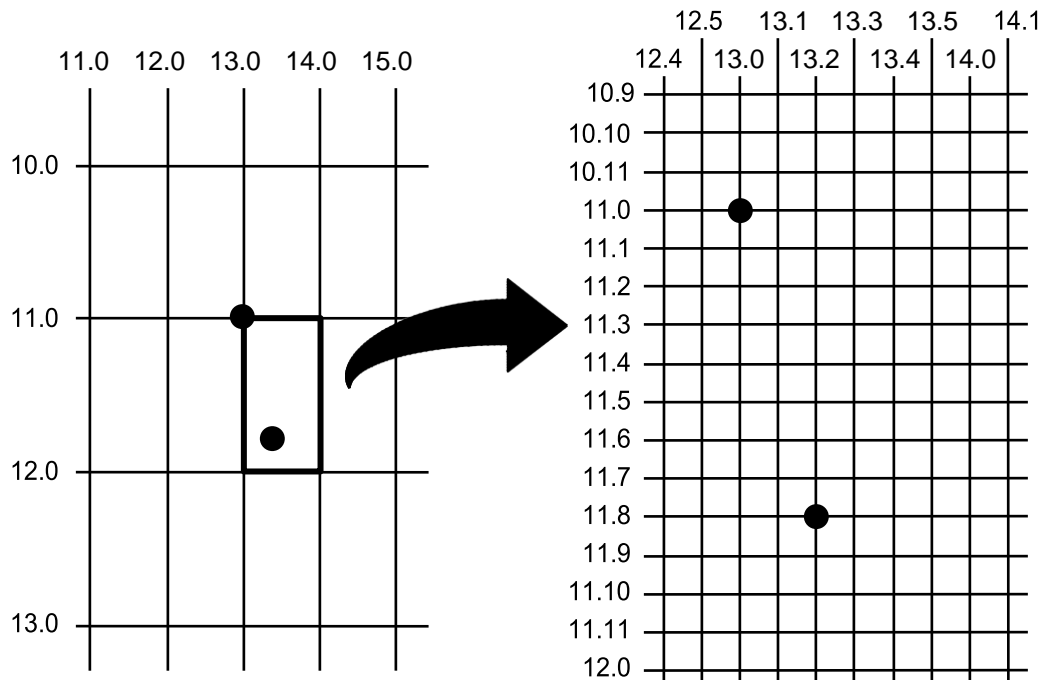

Figure 3 CP.DP Format Example
Each character location is a cell. Each cell is a grid 12 dot rows high by 6 dot columns wide (printing at 6 lpi and 10 cpi). The CP.DP format allows a character cell position (CP) and a specific dot position (DP) within the cell to be identified as shown in Figure 3. The DP portion of the CP.DP format specifies a location down (in reference to rows) and to the right (in reference to columns) within the character cell position.
For example, refer to Figure 3. Suppose a line runs along character position column 13 (CP = 13). At the same time, an alphanumeric string must begin in column 13. With CP.DP format, the alphanumeric string can be offset 2 dot positions (DP = 2) in column 13 to avoid overlap. Specify 13.2 (CP = 13, DP = .2) for the starting column of the alphanumeric string. Similarly, to place a horizontal line 8 dot rows beneath another horizontal line in character row position 11, specify row 11 for one line and row 11.8 for the other line.